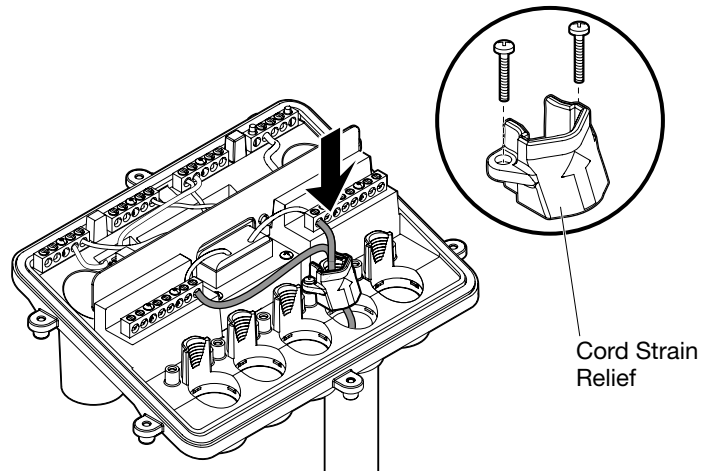

FIG. 9. Strain Relief Location(s)
10. Install the low-voltage cord strain relief(s). See FIG. 9: